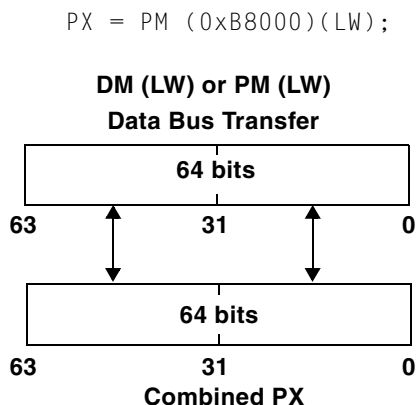

Figure 2-4. PX Register-to-Memory Transfers on PM Data Bus (LW)
Figure 2-4 shows the transfer size between PX and internal memory over the PMD or DMD bus when using the long word (LW) option.
The LW notation in Figure 2-4 shows an important feature of PX register-to-internal memory transfers over the PM or DM data bus for the combined PX register. The PX register transfers to memory are 48-bit (three column) transfers on bits 63-16 of the PM or DM data bus, unless a long word transfer is used, or the transfer is forced to be 64-bit (four column) with the LW (long word) mnemonic.